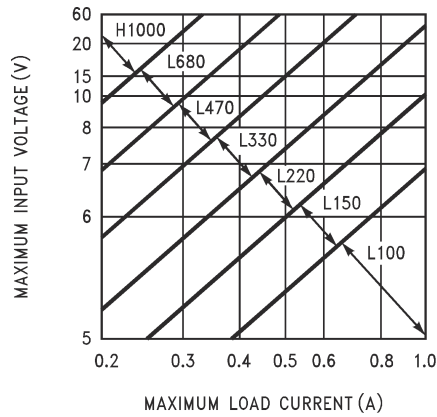
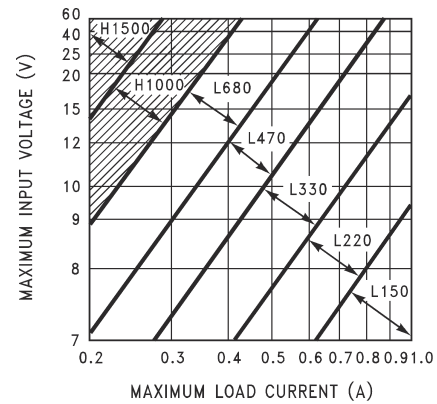
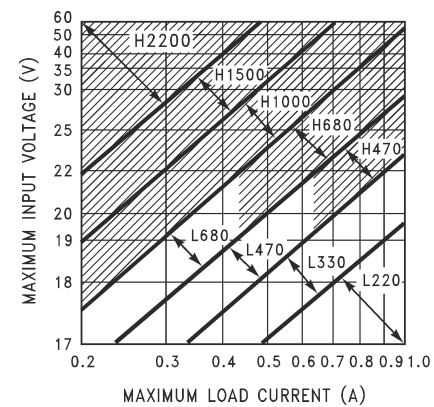

Figure 9-2. TL2575-33
Figure 9-3. TL2575-50
Figure 9-5. TL2575-15
1. Inductor Selection (L1) A. From Figure 9-2 through Figure 9-5 , select the appropriate inductor code based on the intersection of $V_{IN(\text{Max})}$ and $I_{LOAD(\text{Max})}$. B. The inductor chosen should be rated for operation at 52-kHz and have a current rating of at least $1.15 \times I_{LOAD(\text{Max})}$ to allow for the ripple current. The actual peak current in L1 (in normal operation) can be calculated as follows: $I_{L1(pk)} = I_{LOAD(\text{Max})} + (V_{IN} - V_{OUT}) \times t_{on} / 2L1$ Where $t_{on} = V_{OUT} / V_{IN} \times (1 / f_{osc})$	1. Inductor Selection (L1) A. From Figure 9-3 (TL2575-05), the intersection of 20-V line and 1-A line gives an inductor code of L330. B. L330 $\rightarrow$ L1 = 330 μ H Choose from: 34042 (Schott) PE-52627 (Pulse Engineering) RL1952 (Renco)